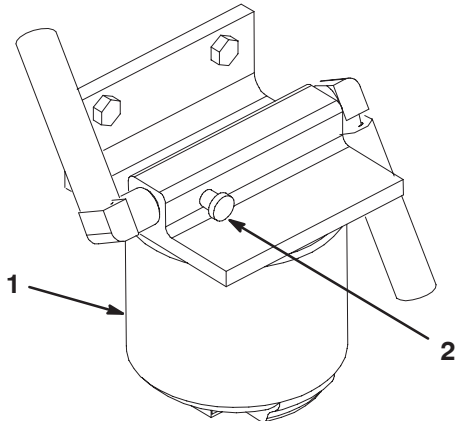

Figure 28
2. At lower left side of engine, loosen air bleed screw at top of fuel filter/water separator (Fig. 28).
3. Connect the Diagnostic ACE display connector (Fig. 28) to the harness connector. Make sure correct overlay decal is positioned on Diagnostic ACE display.